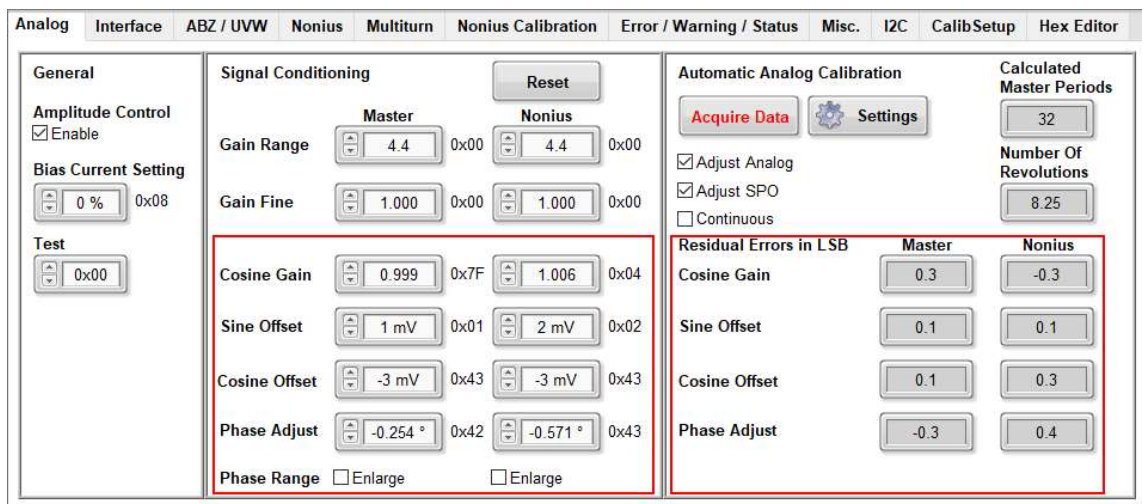

Figure 13: iC-MU Series GUI, Analog Calibration - Signal conditioning values and residual errors in LSB after successful analog calibration
16. Review the Analog calibration result. The "Residual Errors in LSB" are shown on the right hand side of the window (see Fig. 13). Ideally these values should be as close to zero as possible, indicating that the analog calibration algorithm determined suitable signal conditioning values. For residual error values significantly greater (e.g. +/-2 or more) the calibration routine may be repeated multiple times to further minimize the residual error.
The analog calibration results shown in Figure 13 are considered very good.